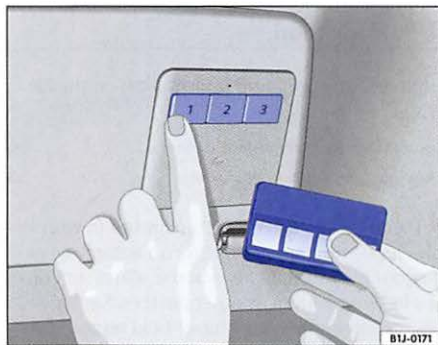

Fig. 29 To program: simultaneously press the buttons for the HomeLink Universal Transmitter and the remote control.
- Press and hold the button on the hand-held remote control for the device being programmed and at the same time press and hold the HomeLink® Universal Transmitter button that you want to use on the sun visor (①, ② or ③) until the indicator light above button ② flashes slowly and then rapidly ⇒ fig. 29.